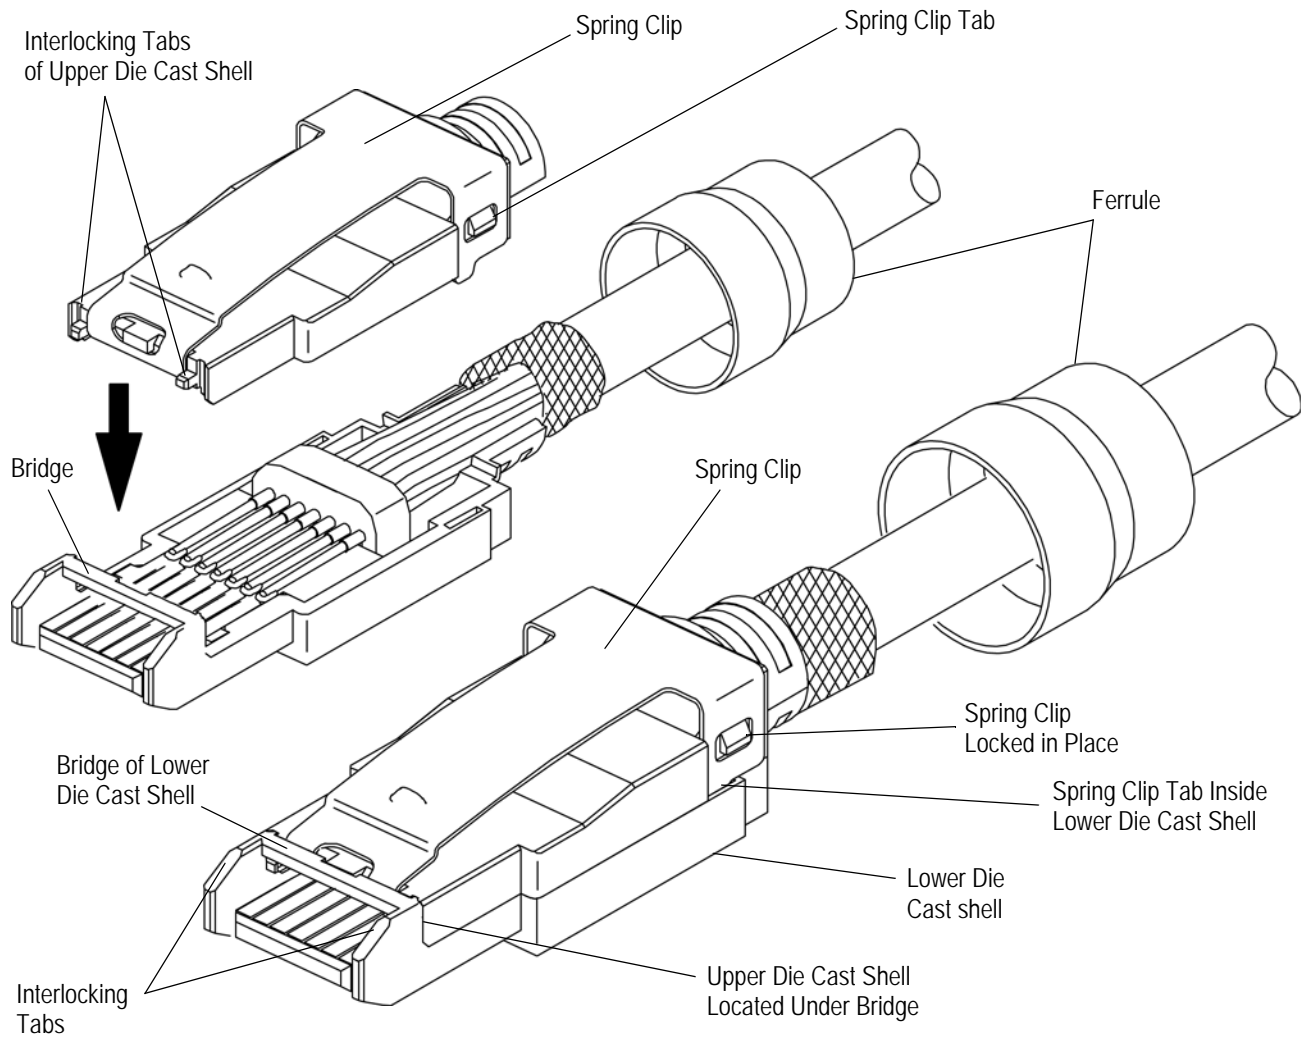

Figure 8
5. Insert the interlocking tabs of the upper die cast shell under the bridge of the lower die cast shell and close it over the top of the lower shell. Make sure all features of each shell are properly aligned. See Figure 8. Make sure the tabs on the spring clip below the locking tab windows on either side are inside the lower die cast shell.